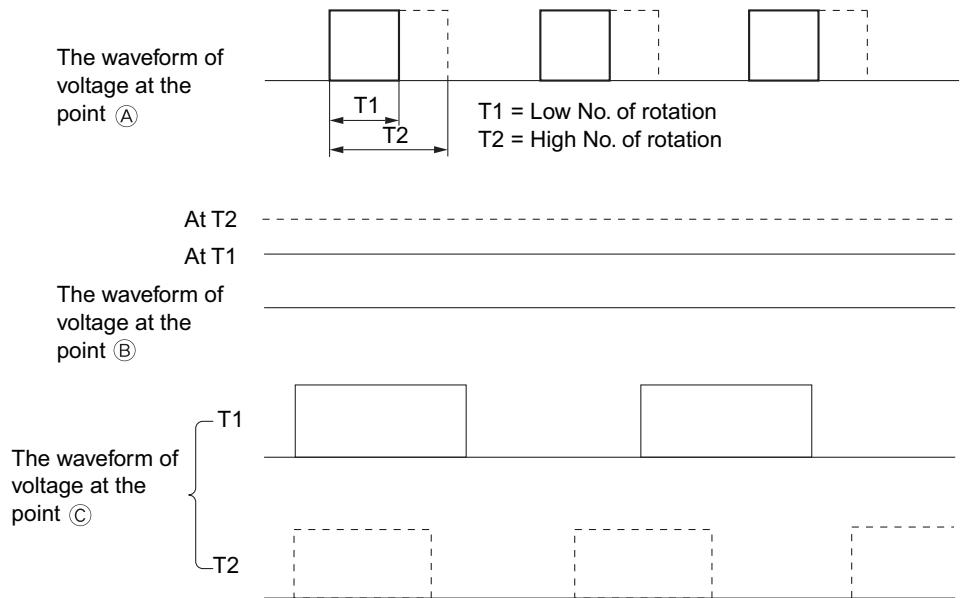

Fig. 5-2
- The 15.7 kHz PWM pulse shown in Fig. 5-2 from the microcomputer pin ⑩ is output to point ④. The width of this pulse changes with instruction number of rotations.